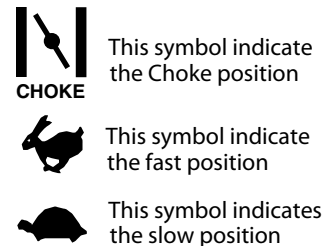

Figure 4-5
- When starting the engine, push the control handle fully forward into the "CHOKE" position. Refer to Figure 4-5.